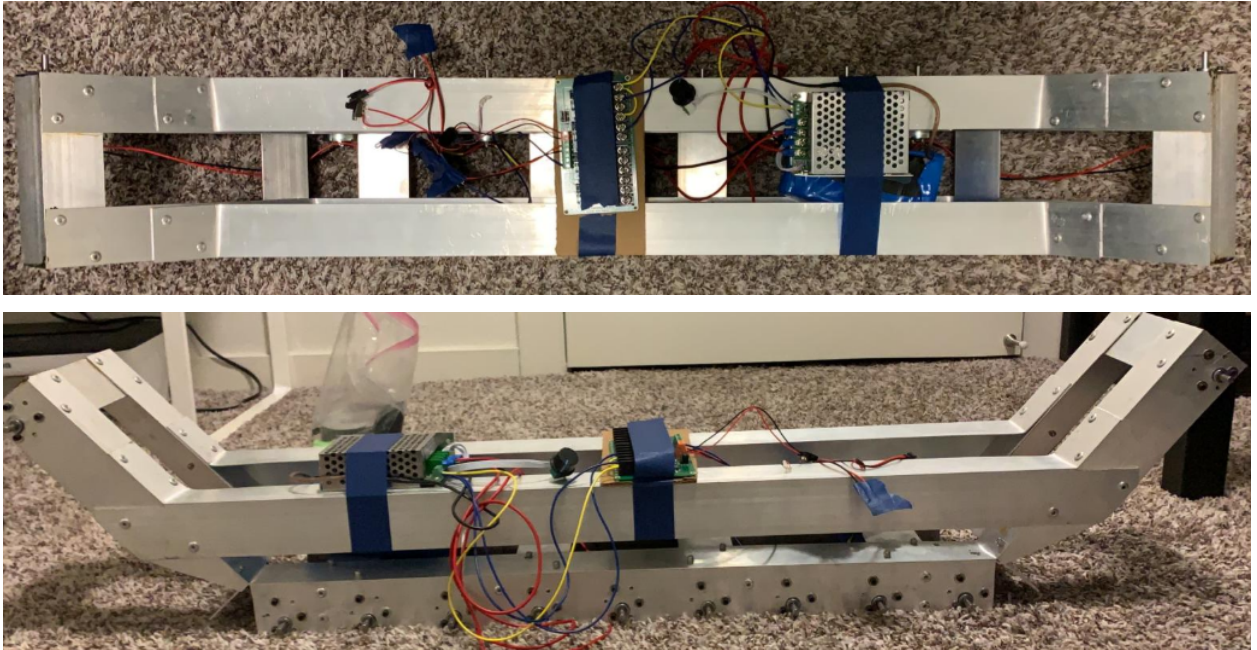

Figure 3: Controllers on tank
6. Install the RC receivers and all controllers over the device and fix them with the help of tape and grip them tightly as shown in figure 3.